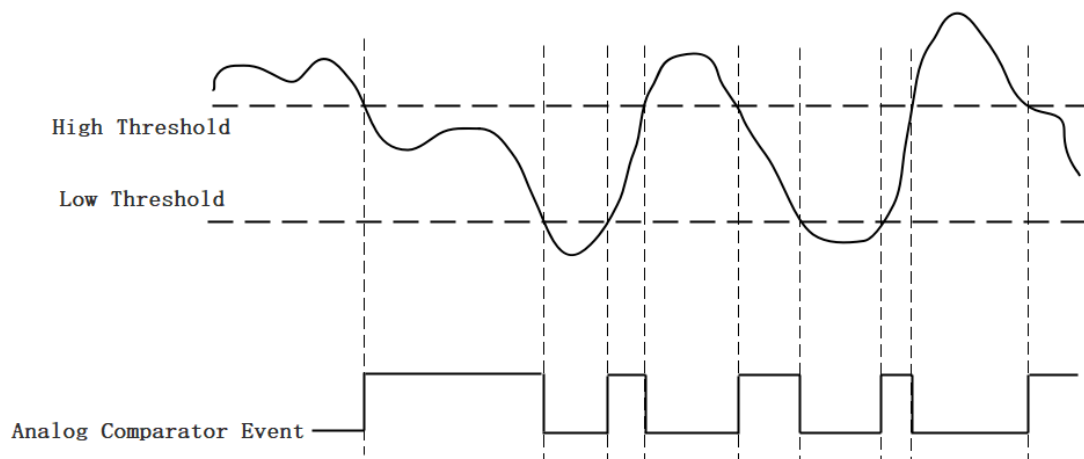

Figure 20 Entering Window Trigger
*Entering Window Trigger*: The window comparator output is high when the signal enters the window defined by the *Low Threshold* and *High Threshold*. The output will change to low when the signal leaves the window as shown in Figure 20.